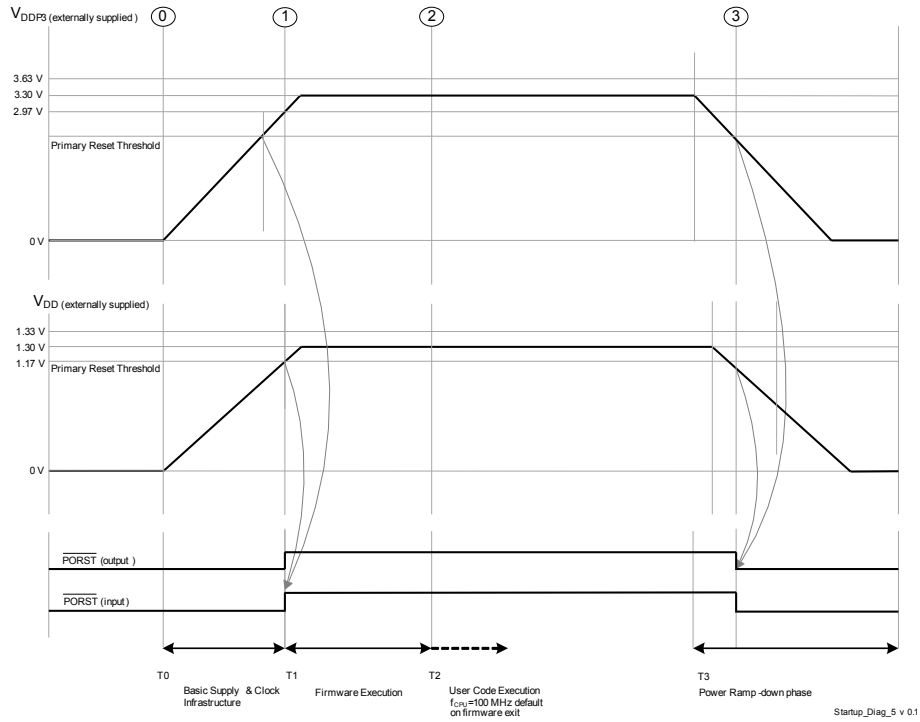

Figure 3-3 External Supply mode - 3.3 V and 1.3 V external supply
- The power sequence as shown in Figure 3-3 is enumerated below